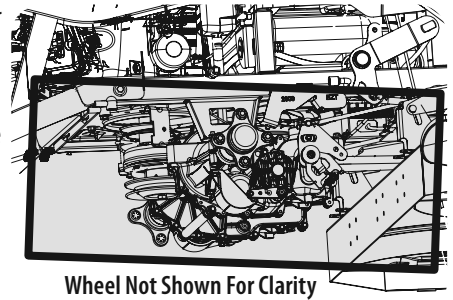

Figure 35
- Clean around and near the transmission, axle and the fan area. See Figure 35.